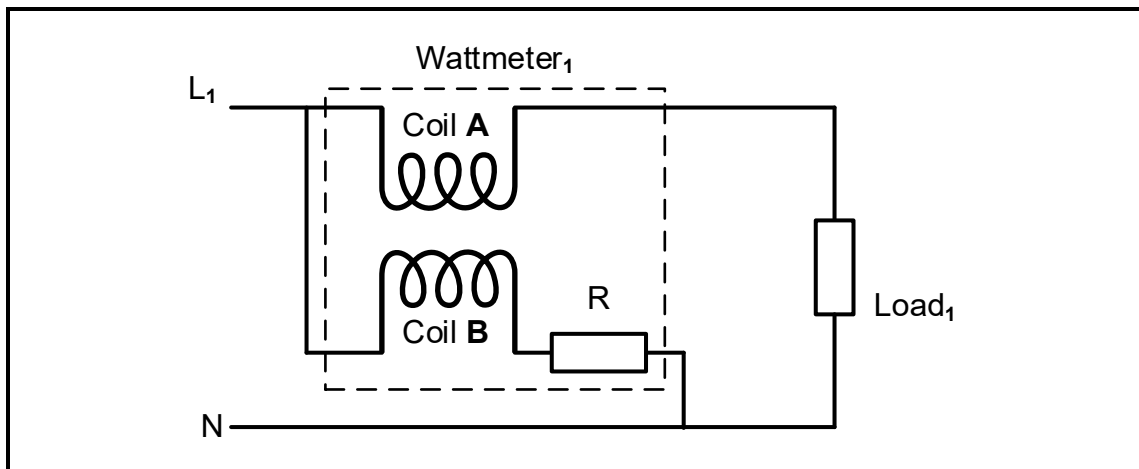

FIGURE 4.6: WATTMETER CONNECTION
- 4.6 FIGURE 4.6 below shows the connection of an analogue wattmeter to one of the phases of a three-phase load. Answer the questions that follow.
- 4.6.1 Identify coil **A** in FIGURE 4.6 above. (1)
- 4.6.3 Describe the function of coil **B** in FIGURE 4.6 above. (2)